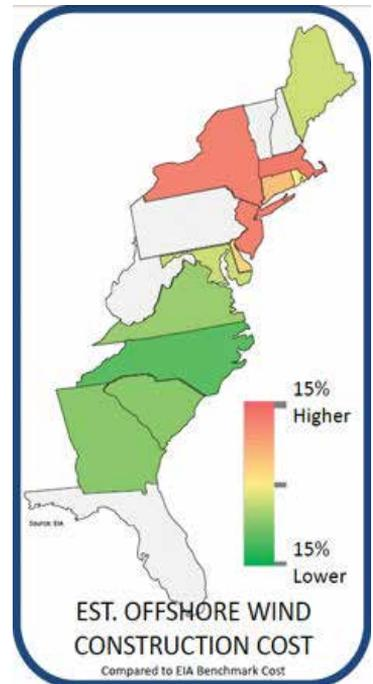

Figure 3. The Southeast is expected to enjoy significantly lower constructions costs for offshore wind energy than other regions on the East Coast.
The U.S. Energy Information Administration (EIA) estimates that the Southeast region offers the lowest construction costs for offshore wind energy among East Coast states, as shown in Figure 3 (12). This advantage